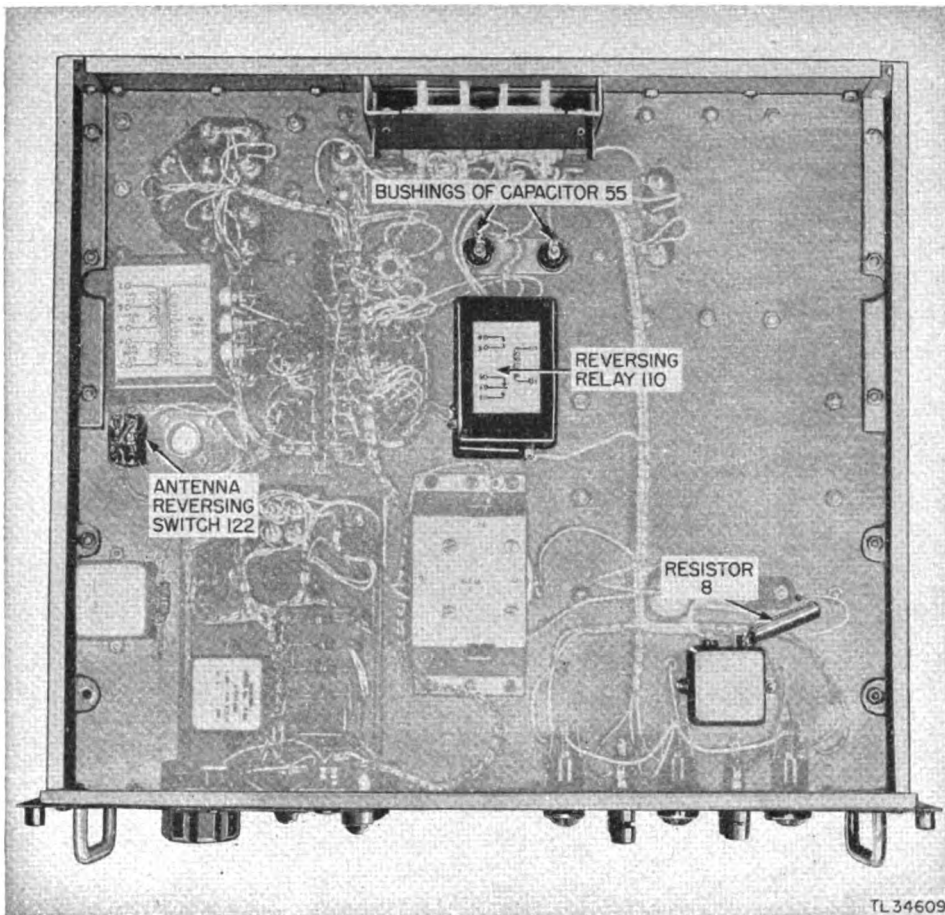

Figure 14. Indicator chassis—bottom view.
- a. LOCATION (fig. 14).
- (1) The tube sockets for—
- (2) The capacitors for—
- (4) The high-wattage resistor 8 (fig. 14) for—
- (5) The fuse holders (fig. 14) for—
- (6) The bushings of transformers 101, 102, 103, 104, and capacitor 55 for—
- (7) The antenna reversing toggle switch 122 (fig. 14) for—
- (8) The SENSITIVITY and CENTERING controls 106 and 107 for—
- (9) Indicator lights for—
- (10) Reversing relay 110 (fig. 14) for—
- (11) Remove cover from the interconnecting receptacle and inspect for—